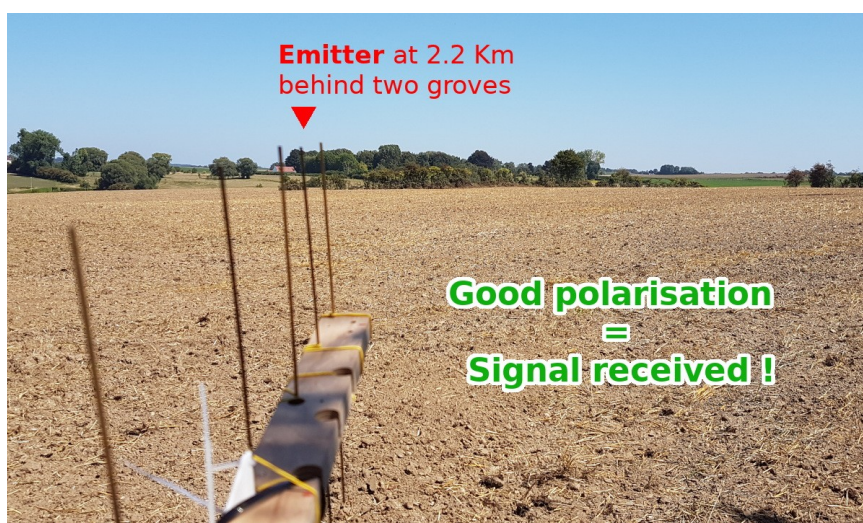

Figure 33: Yagi antenna kept vertically
- The good polarization (figure 33) instantaneously capture the message data. Notice that antenna element is toward the sky and ground element toward the ground.